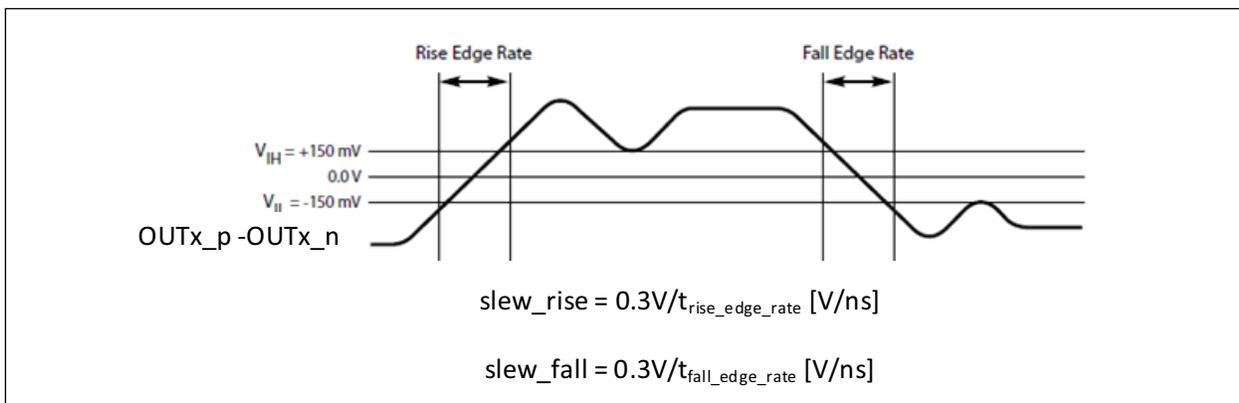

FIGURE 4-4: Differential Measurement Points for Rise and Fall Time.
- 4:** Measured from -150 mV to $+150$ mV on the differential waveform (derived from CK minus CK#). The signal must be monotonic through the measurement region for rise and fall time. The 300 mV measurement window is centered on the differential zero crossing. See Figure 4-4.